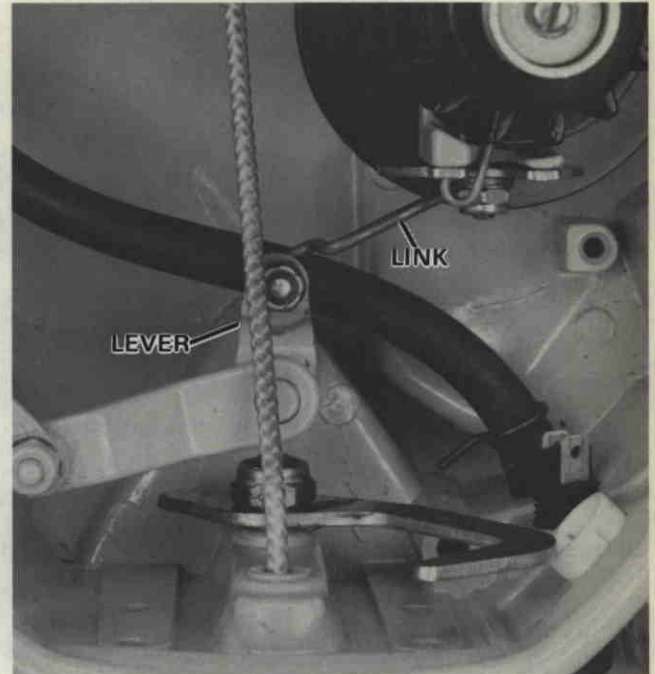

Figure 10. Disconnecting Interlock Link from Gear Shift Shaft Lever.
B. Remove stop nut, two (2) washers and two (2) O rings securing interlock link to gear shift shaft lever. Figure 10.